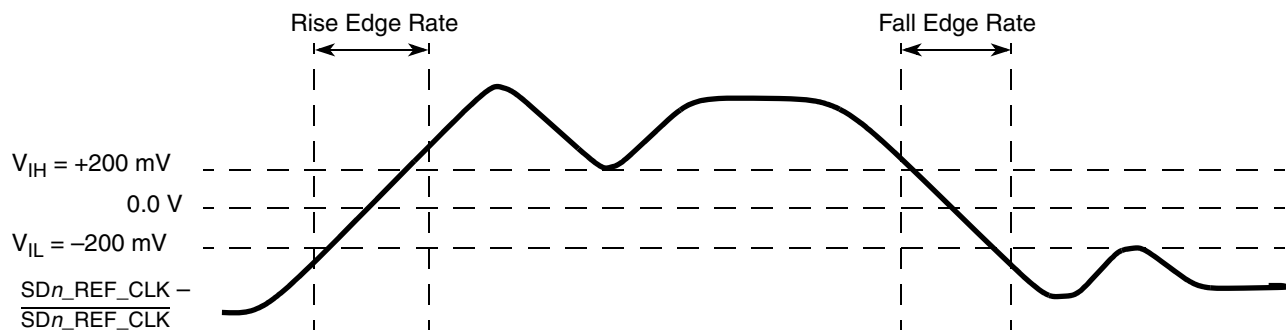

Figure 66. Differential Measurement Points for Rise and Fall Time
- Measured from -200 mV to +200 mV on the differential waveform (derived from SDn_REF_CLK minus $\overline{\text{SDn_REF_CLK}}$). The signal must be monotonic through the measurement region for rise and fall time. The 400 mV measurement window is centered on the differential zero crossing. See Figure 66.